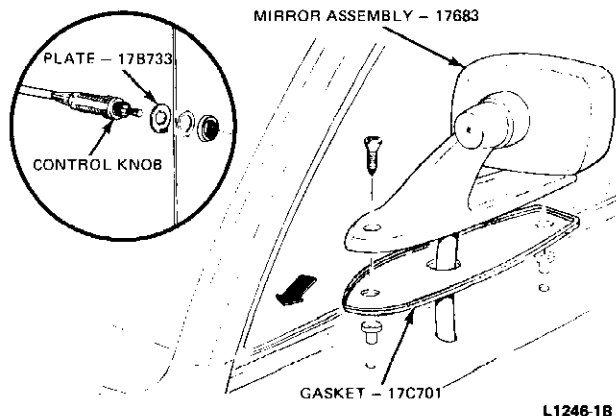

FIG. 2 L.H. Remote Control Mirror Installation—LTD II, Cougar, Lincoln Continental, Mustang, Pinto and Bobcat
1. Position the mirror to the door and install the attaching screw(s) (Figs. 2, 3 and 4).